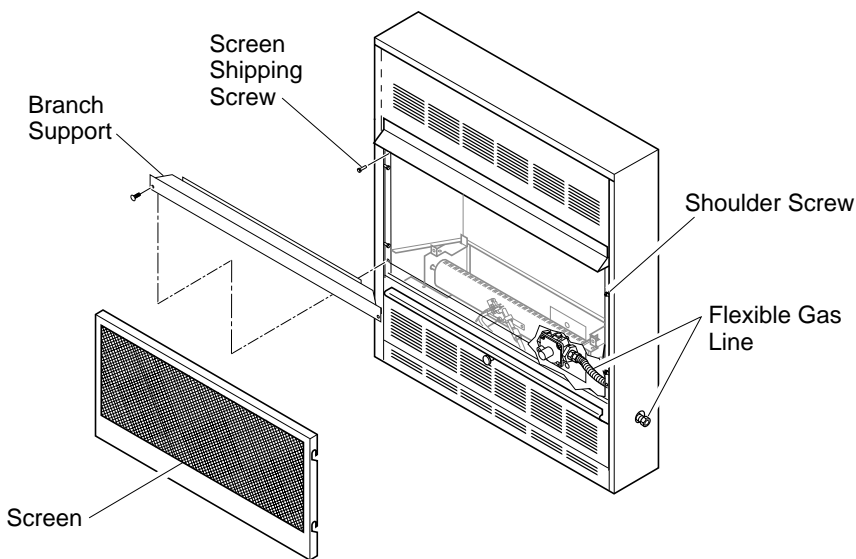

Figure 18 - Removing Log Base Assembly From Fireplace
2. Remove screws that attach branch support to fireplace (see Figure 18). Carefully lift up branch support and remove from fireplace (see Figure 18).